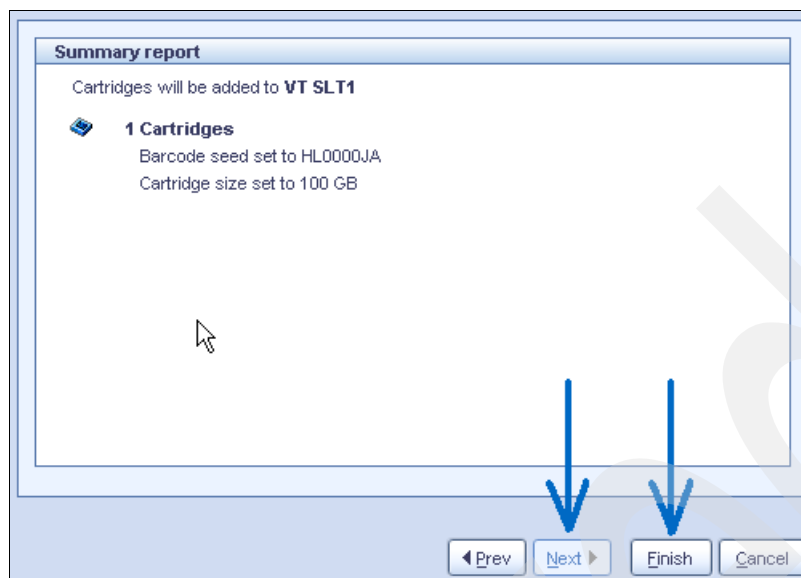

Figure 8-23 Add cartridges wizard
- Click **Next** and **Finish**. The Add cartridges wizard closes and the cartridges are added to the library (see Figure 8-23 on page 208).